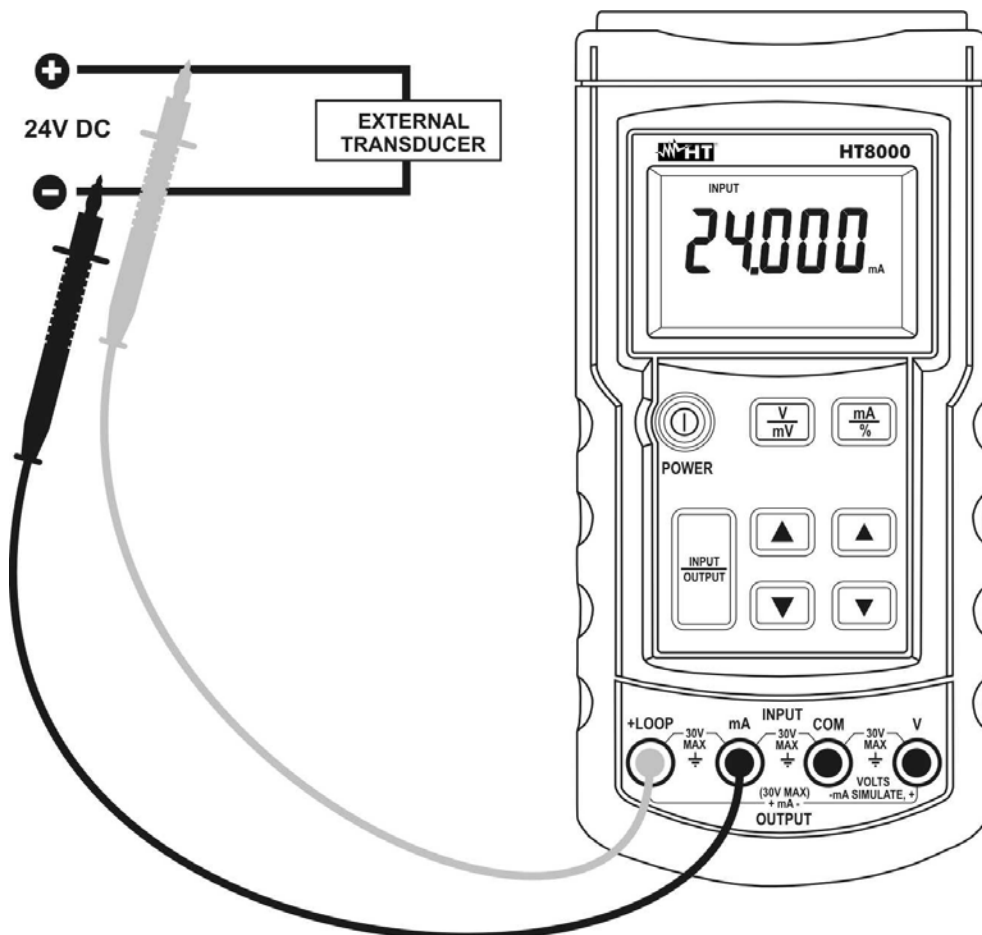

Fig. 6: Loop current measurement of external transducers
5. Connect red and black plugs to the external transducer respecting the polarity and current flow (see Fig. 6).
7. The message "**O.L**" means that the current exceeds the measuring limits. For the generation of a negative value of voltage connect the test leads in the opposite direction than shown in Fig. 6